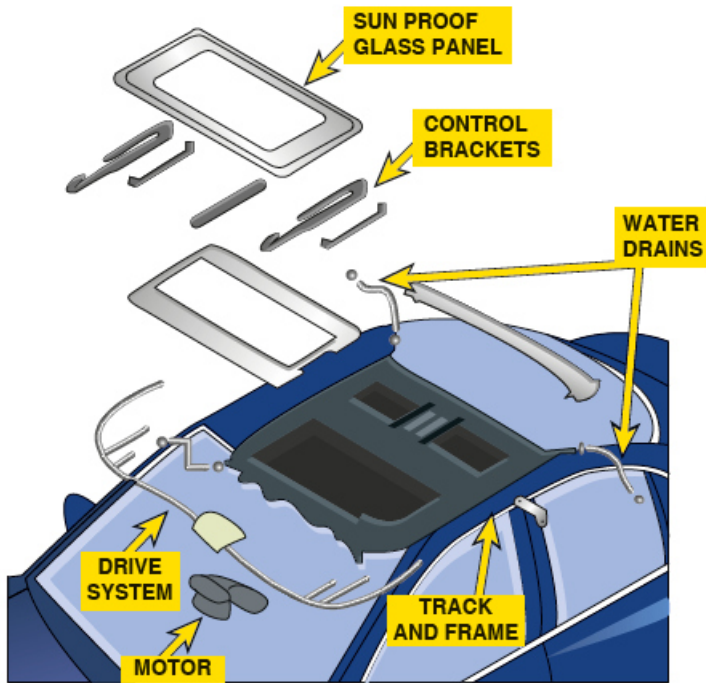

Figure 9. Sunroof motor, drive cables, and water drains.
Moon/sunroof. Most moon or sunroof systems use permanent magnet (PM) electric motors to open and close the moveable glass panel. The open and close, or tilt up or down, motion of the moon roof motors is controlled by double-pole, double-throw (DPDT) switches. Figure 9.